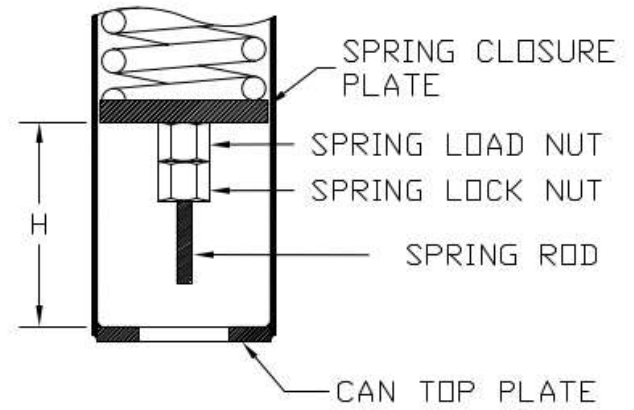

Figure 17B
1. Measure the distance between the inner face of the can's top plate and the outer face of the spring's closure plate; marked "H" in figure 17B on page 18.